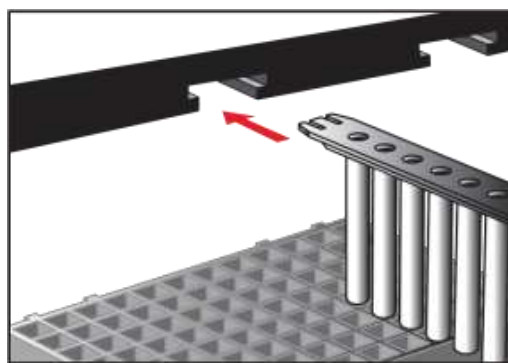

Figure 7: Inserting the rods plastic strip to its position
4. Insert the plastic rods strip in the strip holder in accordance to the tested samples plate and push it to the end (figure 7).